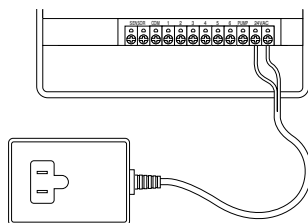

Figure 18: Connecting the Transformer
- Plug in transformer [See Figure 18].